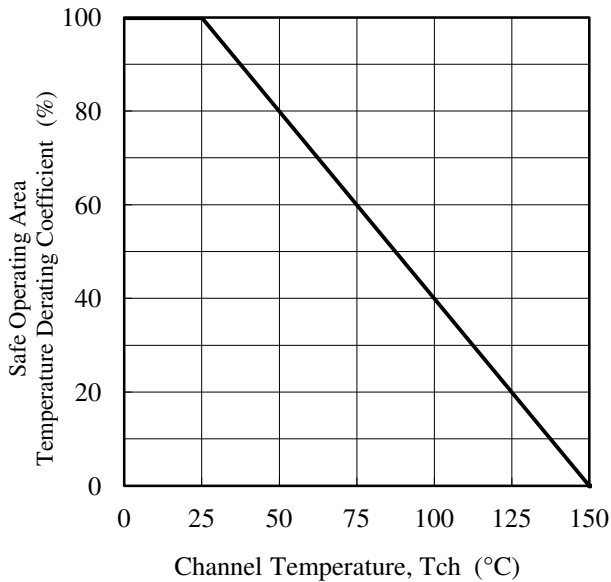

Figure 3-1 SOA Temperature Derating Coefficient Curve
- (1) Refer to Figure 3-1 SOA Temperature Derating Coefficient Curve
- When the IC is used, the safe operating area curve should be multiplied by the temperature derating coefficient derived from Figure 3-1.